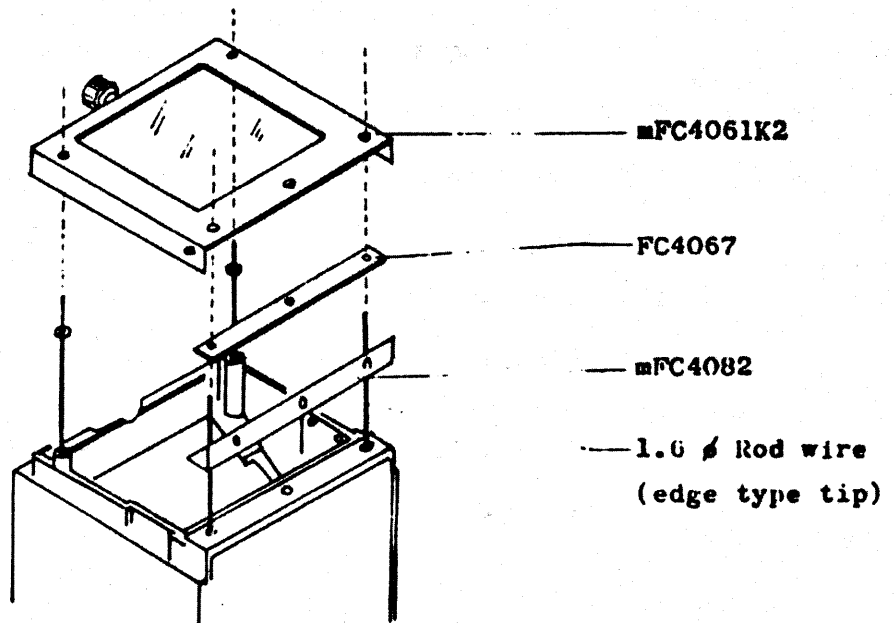

Fig. 16.A
**NOTE:** Before adding washers for adjustment, prepare four 1.6  $\phi$  rod wires. Insert the wires into the camera body as shown in Fig. 16.A, then add the washers. With this method, the ground glass focusing screen can be assembled without dropping the washers.